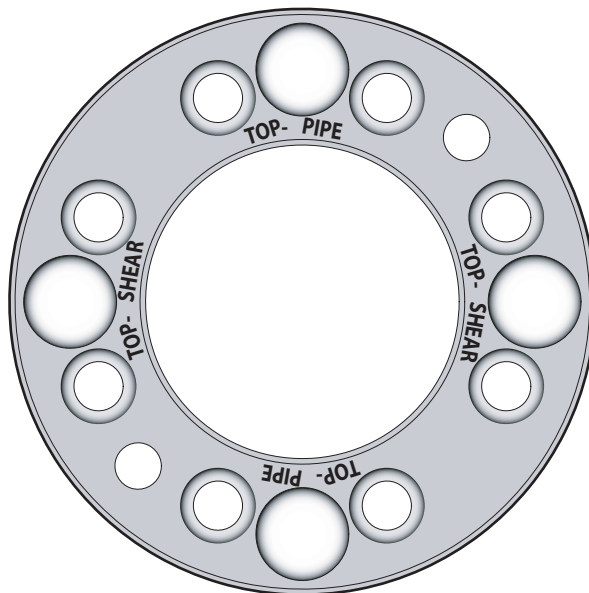

Figure 5-73. Lockrod Plate
The word “PIPE” is stamped on the outward area of the piston body, outside two of the four large 2” diameter holes near the outside diameter (two locations, 180° apart). With the door installed on the BOP body, the marking “PIPE” should be located at the top of the assembly (see Figure 5-73 on page 5-83).
4. Assemble Locking Rod Plate to Cylinder Head (see Figure 5-73):
- a. The cylinder head has been stamped with the word "TOP" in two places 180° apart. The lockrod plate assembly is marked on the lockrod plate at each lockrod. The marking is "TOP-PIPE" (see Figure 5-73). The lockrod plate assembly, when installed into the cylinder head, must be assembled with these markings matched. Torque the screws to 200 ft-lb (271 Nm).